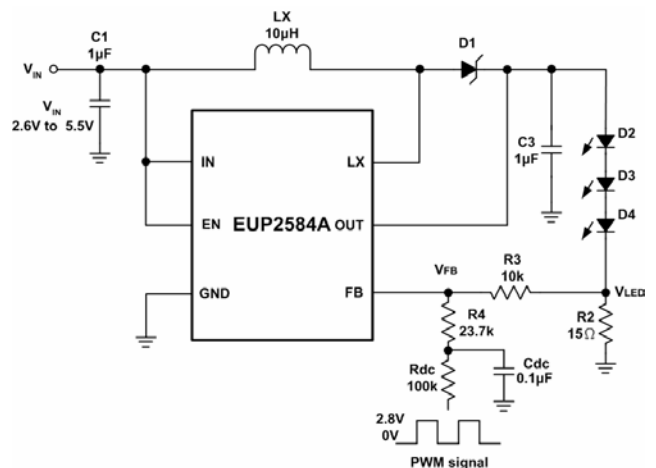
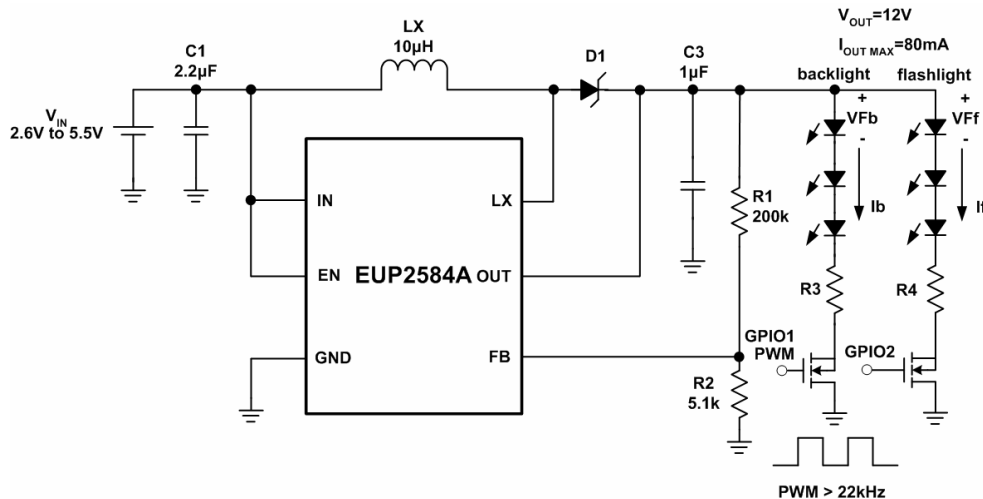

Figure 5. Filtered PWM Signal for LED Dimming Control
Figure 6. Constant Output Voltage for Backlight and Flashlight
Another common application is using a filtered PWM signal as an adjustable DC voltage for LED dimming control. A filtered PWM signal acts as the DC voltage to regulate the output current. The recommended application circuit is shown in the Figure 6. In this circuit, the output ripple depends on the frequency of PWM signal. For smaller output voltage ripple (<100mV), the recommended frequency of 2.8V PWM signal should be above 2kHz. To fix the frequency of PWM signal and change the duty cycle of PWM signal can get different output current. According to the application circuit of Figure 5, output current is from 20.5mA to 5.5mA by adjusting the PWM duty cycle from 10% to 90%.
Figure 6 is an application of EUP2584A for backlight of main panel and flashlight. Setting the divider-resistors (R1 & R2) is to get a constant output voltage that depends on the forward voltage and the numbers of series-LEDs. There are three kinds of mode controlled by the switches - backlight mode /flashlight mode /backlight + flashlight mode. It can turn on backlight or flashlight at one time or both at the same time. Applying different duty cycle of PWM signal above 22kHz to backlight's switch can also control the brightness. The following formula (2)(3) can determine R3 and R4.